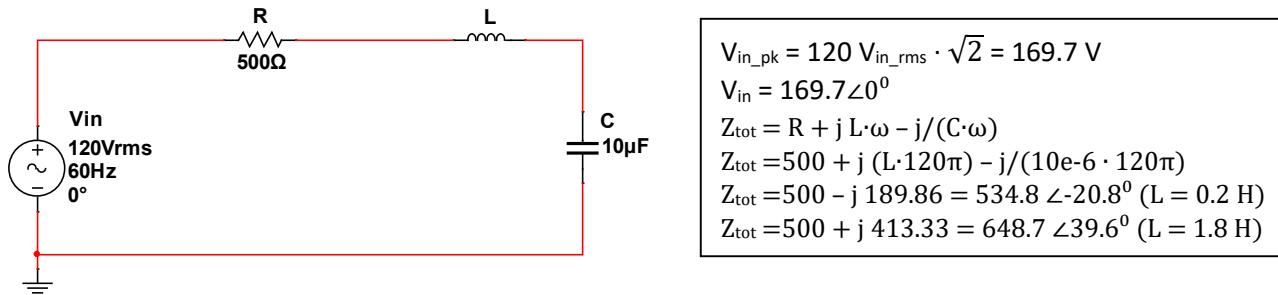
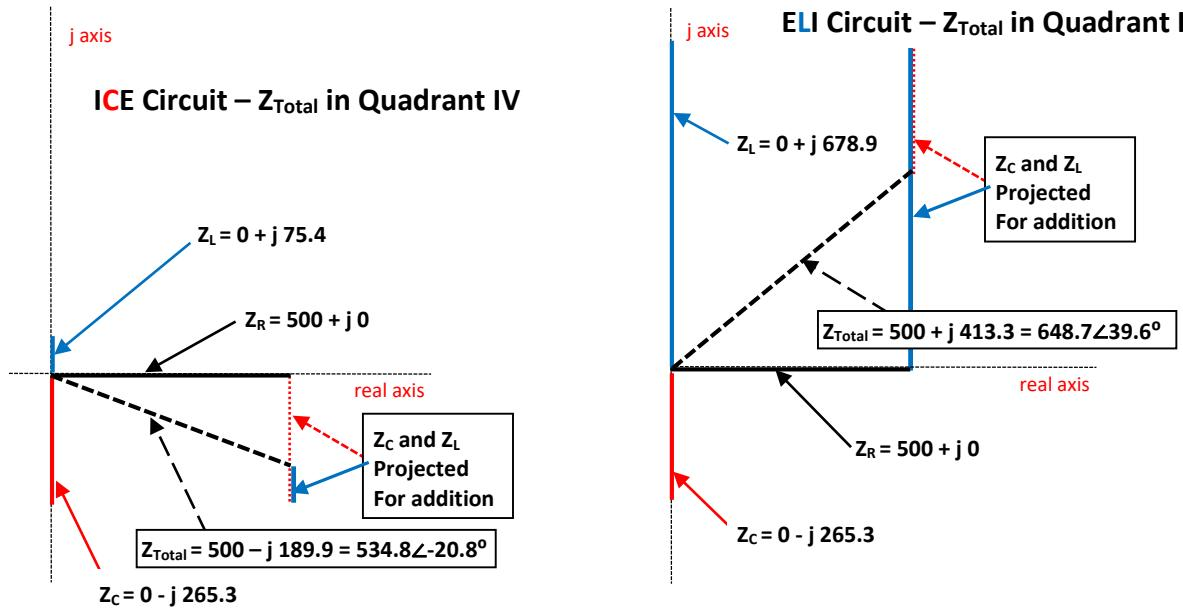

Figure 3.8: Circuit for Example3.4
Figure 3.9: Impedance Plots for Example3.4. Case 1: $L = 0.2 \text{ H}$ (Left Plot), Case 2: $L = 1.8 \text{ H}$ (Right Plot)
Example 3.4) Solve for the total impedance phasor (Z_t) in the circuit in Figure 3.8 when $L = 0.2 \text{ H}$ and when $L = 1.8 \text{ H}$.
The phasors for the total impedance (Z_{tot}) for each of the two cases ($L = 0.2 \text{ H}$ and $L = 1.8 \text{ H}$) are calculated in textbox in Figure 3.8. An impedance plot is performed in Figure 3.9 to help verify the total impedance was calculated correctly.
* Case 1: $L = 0.2 \text{ H}$, $Z_{\text{Total}} = 534.8 \angle -20.8^\circ$ (see Fig. 3.9)	* Case 2: $L = 1.8 \text{ H}$, $Z_{\text{Total}} = 648.7 \angle 39.6^\circ$ (see Fig. 3.9)